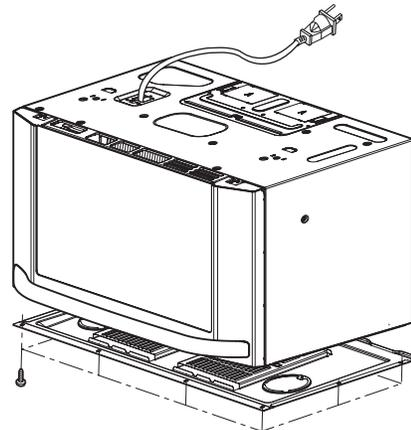

Figure 20
- (1) Remove the glass tray and plastic tray.
- (2) Remove the base plate by removing 8 screws securing it to the oven cavity.(Figure 20)
- (3) Disconnect the leadwire from the turntable motor terminals.